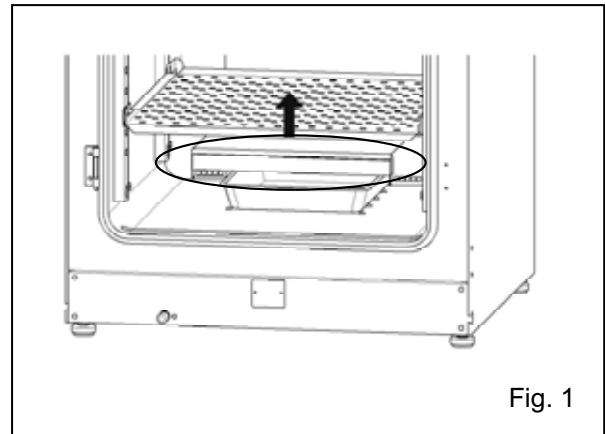

Fig. 1
2. Open the outer and inner doors and pull out the trays. (See Fig. 1.)
1. Lift the humidifying pan cover. (See Fig. 1.)
3. Pour one bottle of H₂O₂ Decontamination Reagent (MCO-H2O2) into the H₂O₂ Generator. Set the two pins on the H₂O₂ Generator in the 2 holes on the lower left side of the duct (Fig. 1).
4. Connect the H₂O₂ Generator and connector on the bottom right of the far side of the chamber with the enclosed cable. Be sure to keep the connector cap (Fig. 1).